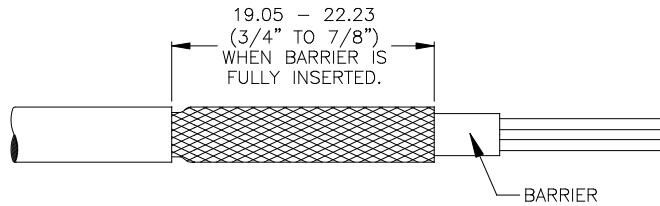

FIGURE 1
- Strip cable and insert Barrier per Figure 1. End of Barrier should protrude from shield.